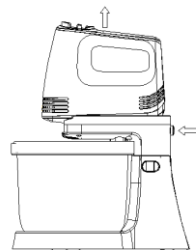

Fig. 7
4. To remove the mixer from the support after use, press the release button (fig. 7) at the rear of the support and lift the mixer off.